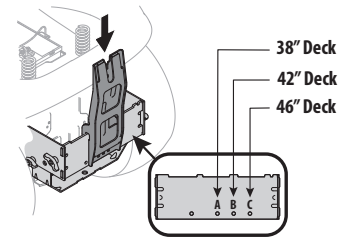

Figure 5
1. Install the vertical support bracket onto the mounting assembly on the tractor by hooking it over the cross mounting bracket. See Figure 5.